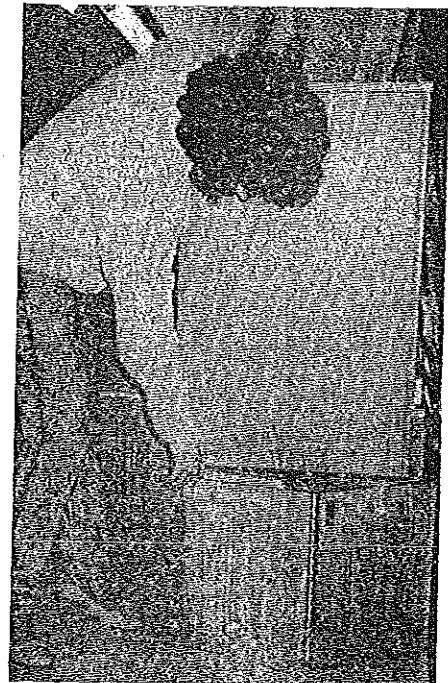

FIGURE 18
22. While holding the wardrobe in a vertical position, unfold the wooden rest from its storage position against the interior trailer wall and slide it under the wardrobe. See Figure 18.